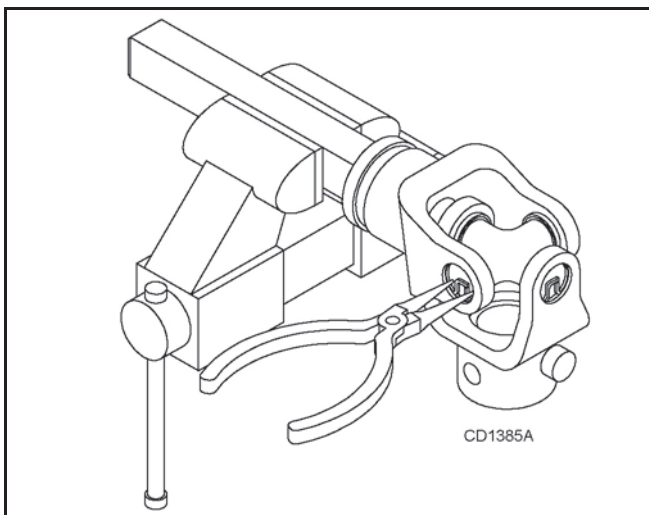

Figure 28. Remove Snap Ring
1. Remove external snap rings from yokes in four locations as shown in Figure 28.